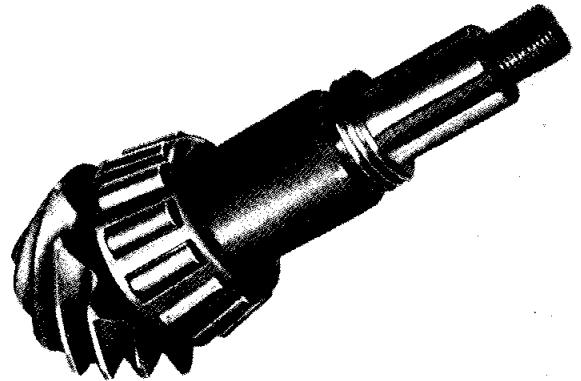

Fig. 24 Showing the pinion bearing spacer chamfer pointing outwards, followed by the previously used shim pack.
- (viii) The bearing spacer is fed on to the pinion shaft with the chamfer outwards as shown in Fig. 24. The shims previously removed when dismantling the axle are placed in position on the pinion and the assembly fitted into the axle centre casing. The thickness of shims fitted will probably have to be adjusted to provide the correct pre-load figure.